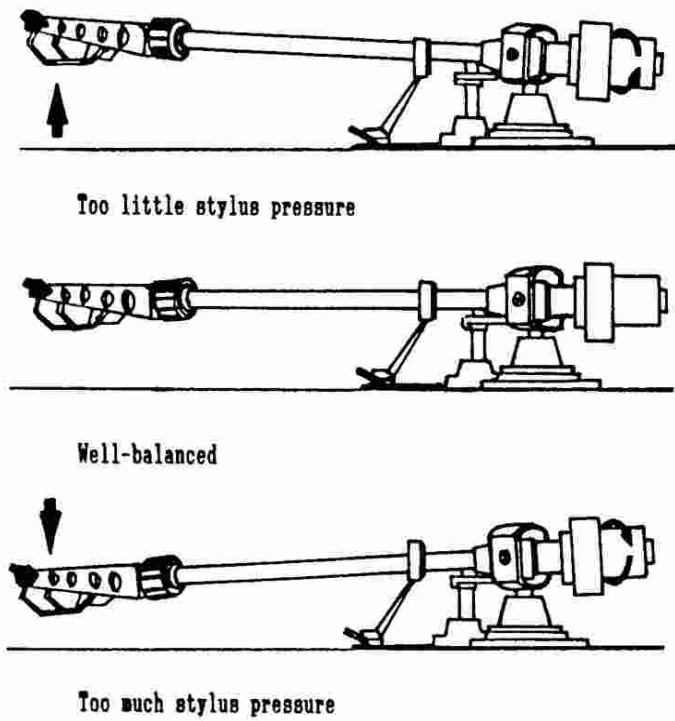

Fig. 3
- 5) Adjust for balance by turning the counterweight either clockwise or counterclockwise (Fig. 3).